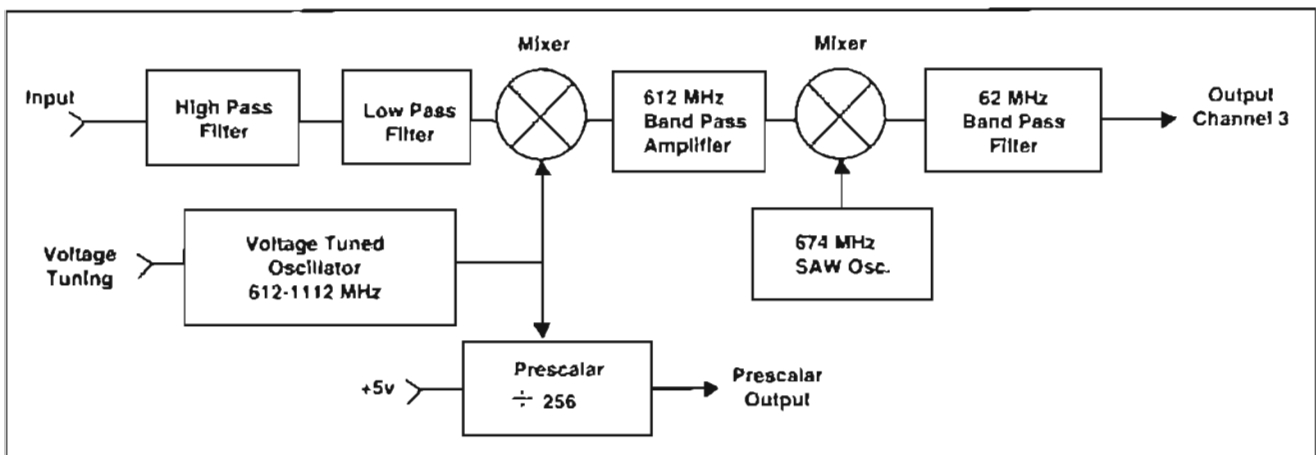

Figure 2. Block diagram of a CATV tuner.
**Photo A** shows a typical CATV tuner module. These devices can be found surplus at very low cost. You can also salvage suitable tuners from discarded cable-ready TV sets that have electronic tuning. In **Figure 2**, I show a block diagram depicting what goes on inside one of the CATV tuners. The input signal first passes through a high-pass filter with a cutoff at 40 MHz. A low-pass filter limits signals above